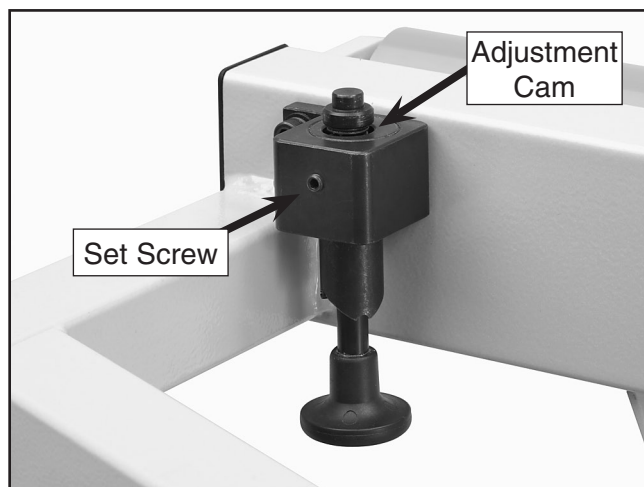

Figure 97. Crosscut fence adjustment cam.
5. Loosen the set screw shown in **Figure 97** and rotate the cam to square the crosscut fence.